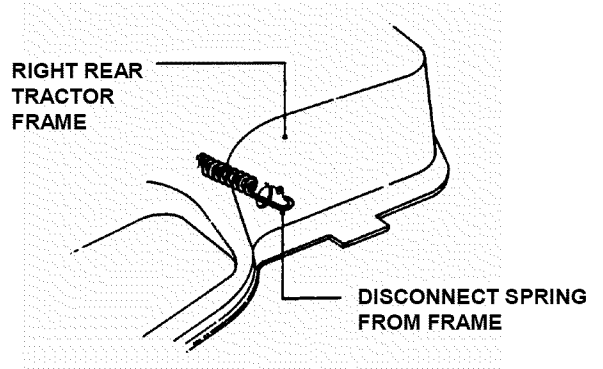

FIGURE 4.30
13. Disconnect traction belt idler pulley spring from tractor frame. See Figure 4.30.